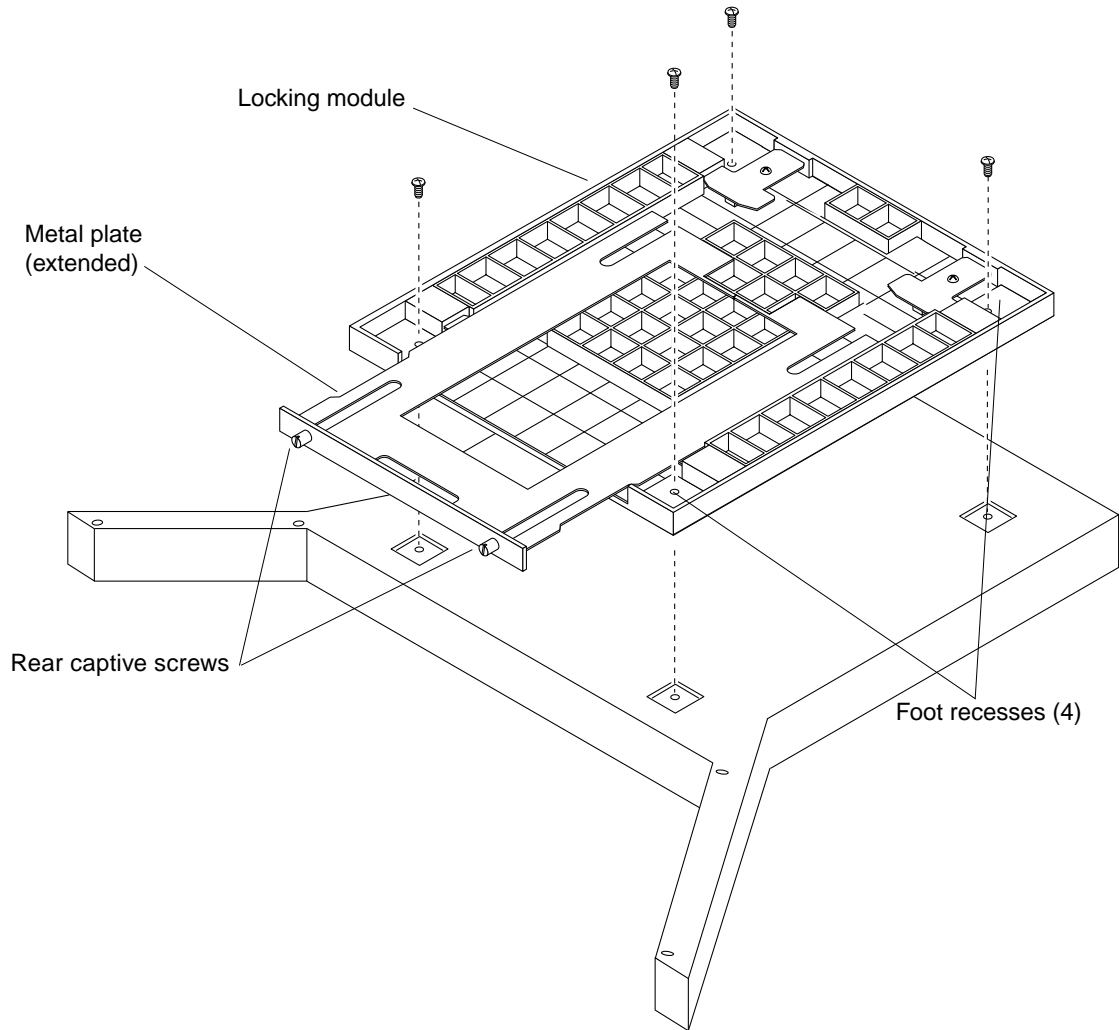

Figure 3 Installing First Locking Module (Rear View)
- 3. Unpack the locking modules and place one locking module on top of the caster base (Figure 3).**
- 4. Install and tighten four M6 Phillips screws in the locking module foot recesses (Figure 3).**
- 5. Loosen the two rear captive screws from the metal rear panel assembly on the locking module (Figure 3).**
- 6. Pull the locking module metal plate toward you until it is fully extended to the end of its track (Figure 3).**